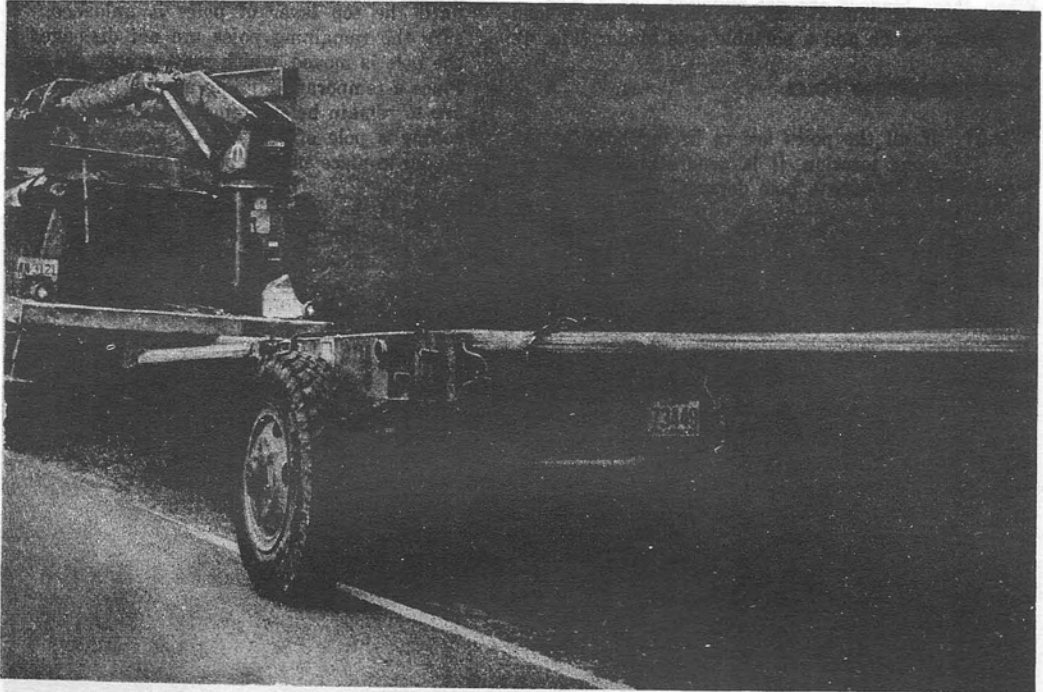

Fig. 3—Binding Poles on Trailer
6.02 All loads of poles must be bound in two places, at the rear and at the front. If the rear bolster of the trailer is equipped with a load binding winch, pass the rope of the winch around and fasten the eye to the rope knob, then operate the winch to bind the load. At the front, the sling of a portable pole binder is wrapped around the entire load and the tongue or king pole and fastened on the rope knob on the binder. Tension is applied by the winch to bind the load. Figure 3 shows a pole load properly bound with a chain.